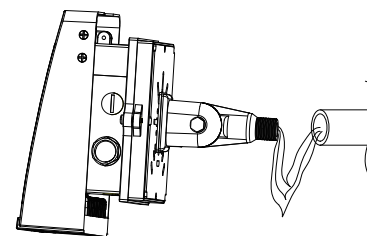

Figure 8
1. Take out the fixture, connect the output wire of the fixture to mains and make good protection on the wiring connection. (See figure 8)